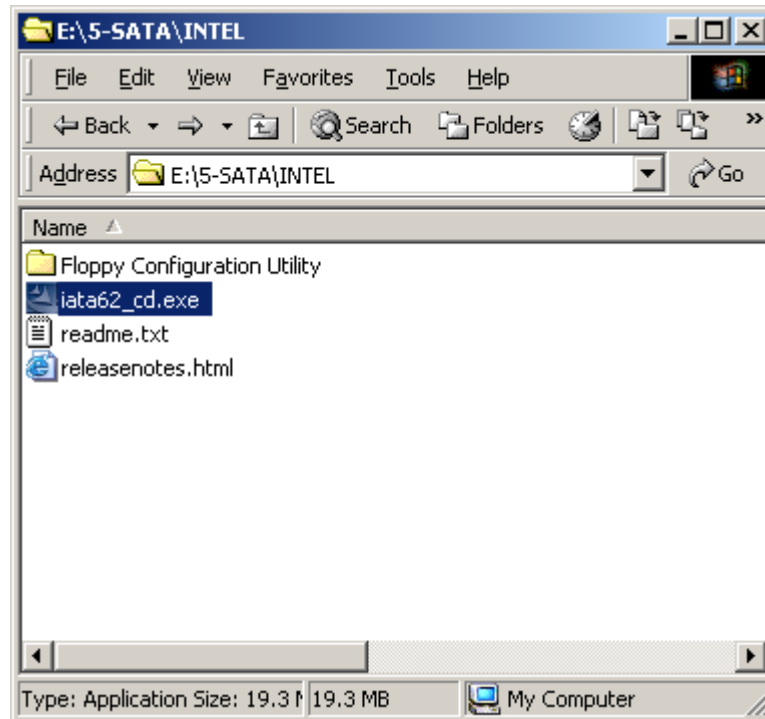

Figure 7-36: SATA RAID Setup Program Icon
Step 4: Double-click the **iata62_cd.exe** program icon in **Figure 7-36**.